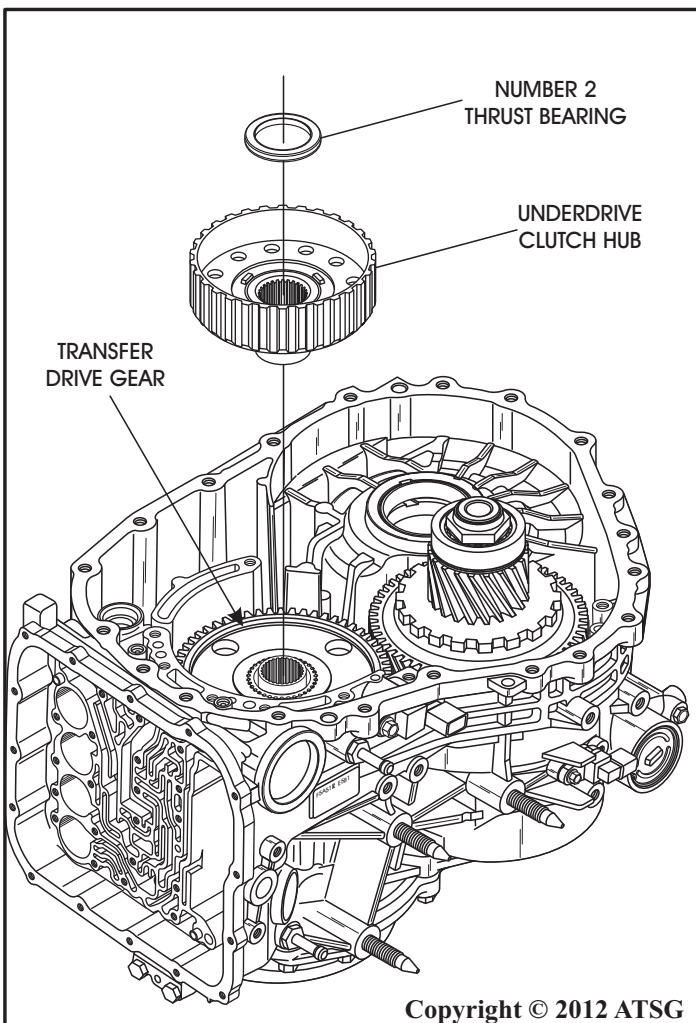

Figure 69
32. Remove underdrive clutch hub and number 2 thrust bearing, as shown in Figure 69.